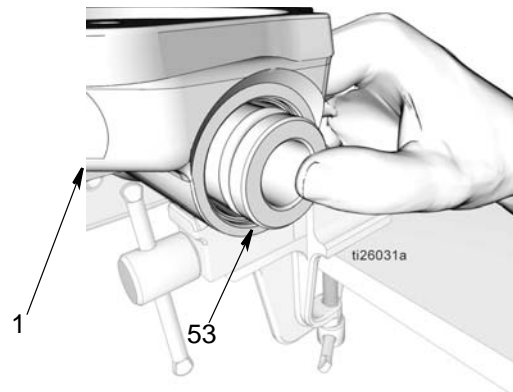

FIG. 43
- d. Use your thumbs to press the sleeve (53) into the pump base (1). Then using a soft rod, press the sleeve all the way down as far as possible (FIG. 43).